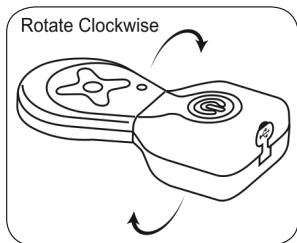

figure 7B: Gently twist until flush
- B. **Gently** twist the power controller clockwise until the Applicator edge is flush with the Power Controller (Figure 7B).